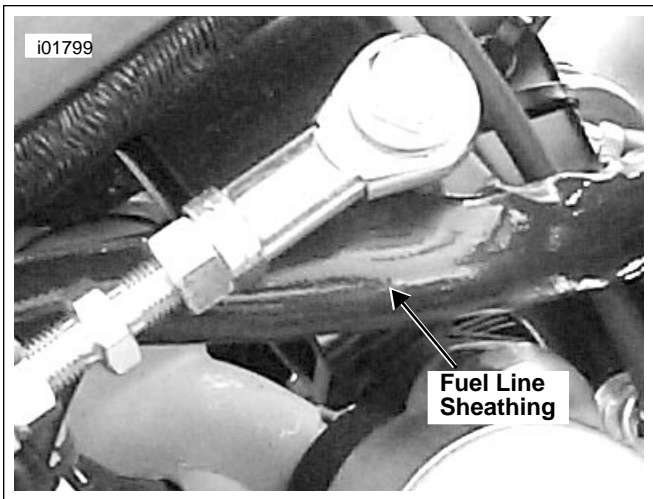

Figure 2. Fuel Line Routing
5. See Figure 2. Cut a piece of bulk fuel line (Part No. 63521-95) to 10-1/2 in. (266.7 mm). Attach fuel line, with a hose clamp, to the fuel rail and tighten clamp. Slide the sheathing onto the hose and route hose as shown.
10. See Figure 2. Cut a piece of bulk fuel line (Part No. 63521-95) to 10-1/2 in. (266.7 mm). Attach fuel line, with a hose clamp, to the fuel rail and tighten clamp. Slide the sheathing onto the hose and route hose as shown.